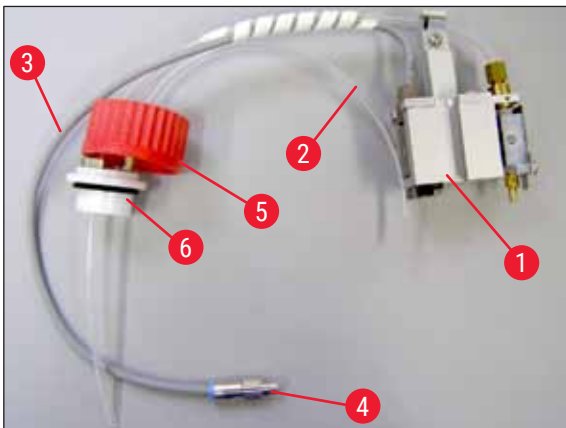

Fig. 10
1. Take the dispenser group (→ Fig. 10) out of the packaging.